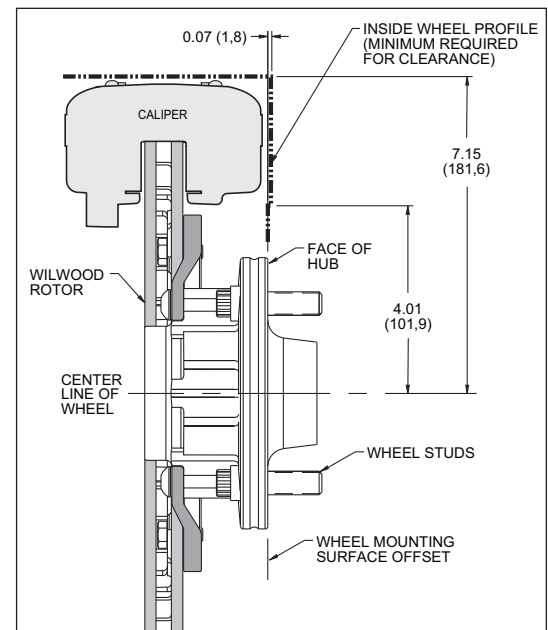

Figure 2. Wheel Clearance Diagram
- Review the wheel clearance diagram (figure 2, page 3) to verify that there is adequate clearance with the wheels you will be using with the installation.
- Verify wheel clearance utilizing figure 2.